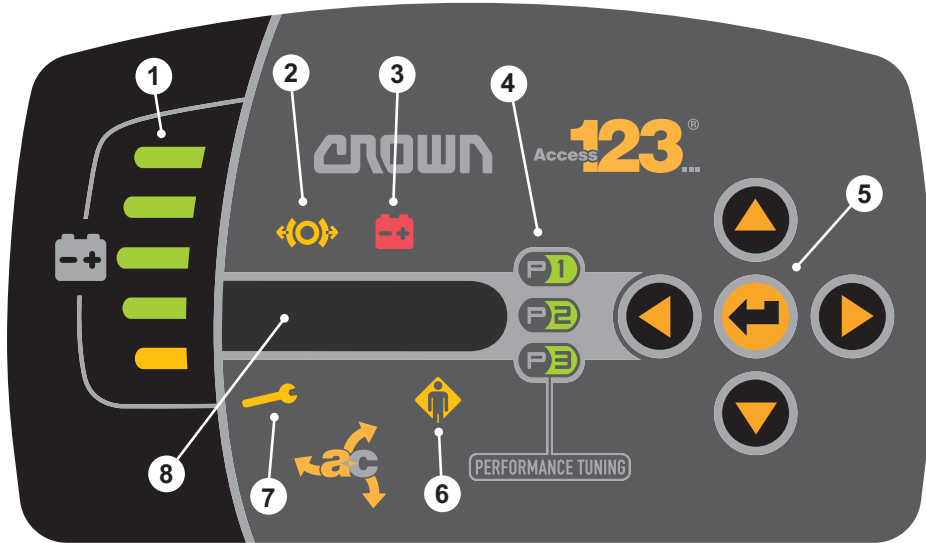

Fig. 6 Display panel
When the truck starts, one of the three performance setting displays illuminates (④, Fig. 6). Different values for the maximum speed, acceleration etc. are assigned to the various performance settings.
The Message Panel (⑧, Fig. 6) shows truck information such as: hours of operation, event codes along with instructions, battery charge and other data
When the truck is turned on, the display is in message mode. Display: **MPC 3000**. Depending on the pre-setting, one of the following readings can be chosen as the display (see Fig. 6):
The operator error indicator light (⑥, Fig.6) lights up for the following reasons:
The service indicator light (⑦, Fig.6) lights up for the following reasons:
The following table lists the navigation and entry button options (⑤, Fig.6) within the operator menu:
The performance setting is displayed (④, Fig. 6)